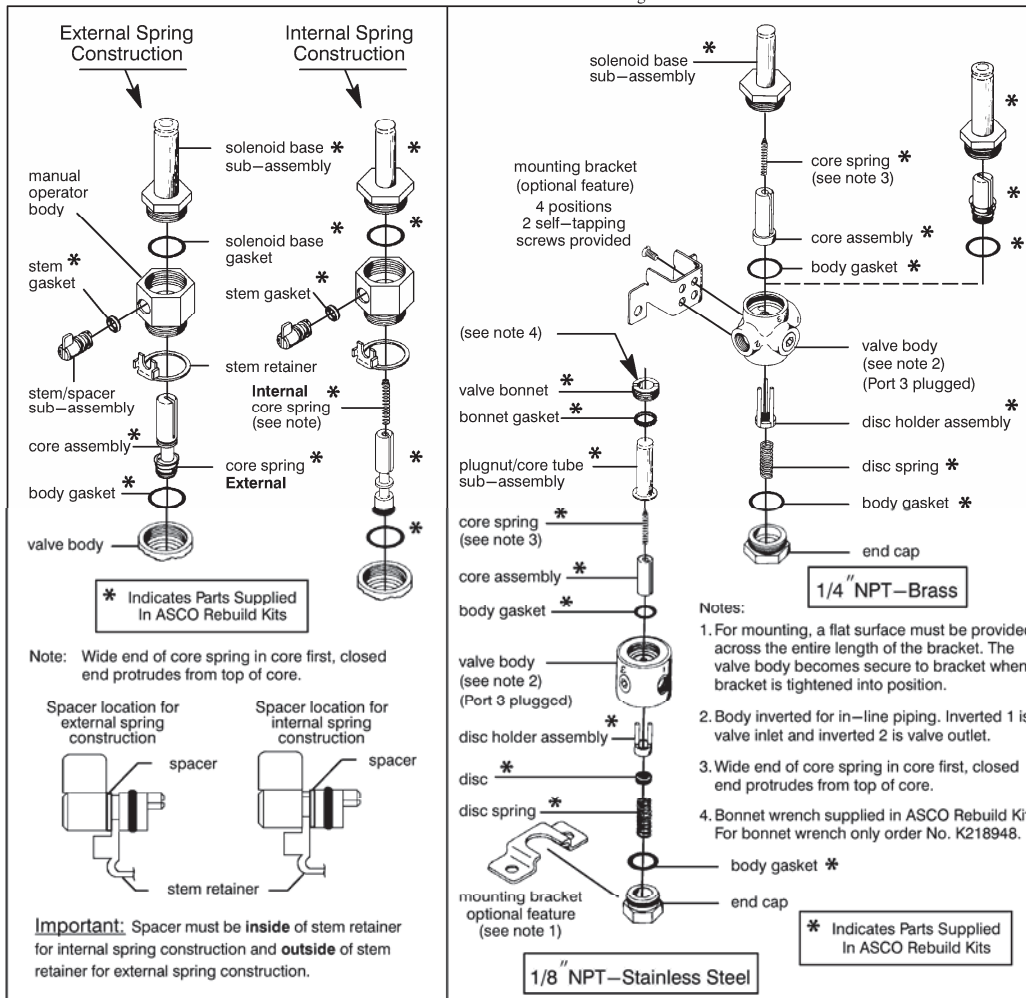

Figure 3. Stem/lever type manual operators
4. For normally open construction (Figure 3) remove end cap, or manual operator, (not shown) end cap gasket, disc holder spring, and disc holder assembly.
3. For normally open construction (Figure 3), install disc holder assembly, disc holder spring, end cap gasket and end cap or manual operator. For valves with 1/8" NPT, torque end cap or manual operator to 90 ± 10 in-lbs [10.2 ± 1.1 Nm]. For all other valves torque end cap or manual operator to 175 ± 25 in-lbs [19.8 ± 2.8 Nm].
Disassembly and Reassembly of Stem /Lever Type Manual Operator (Refer to Figure 3)
COIL REPLACEMENT (Refer to Figure 3)
(Refer to Figure 3)